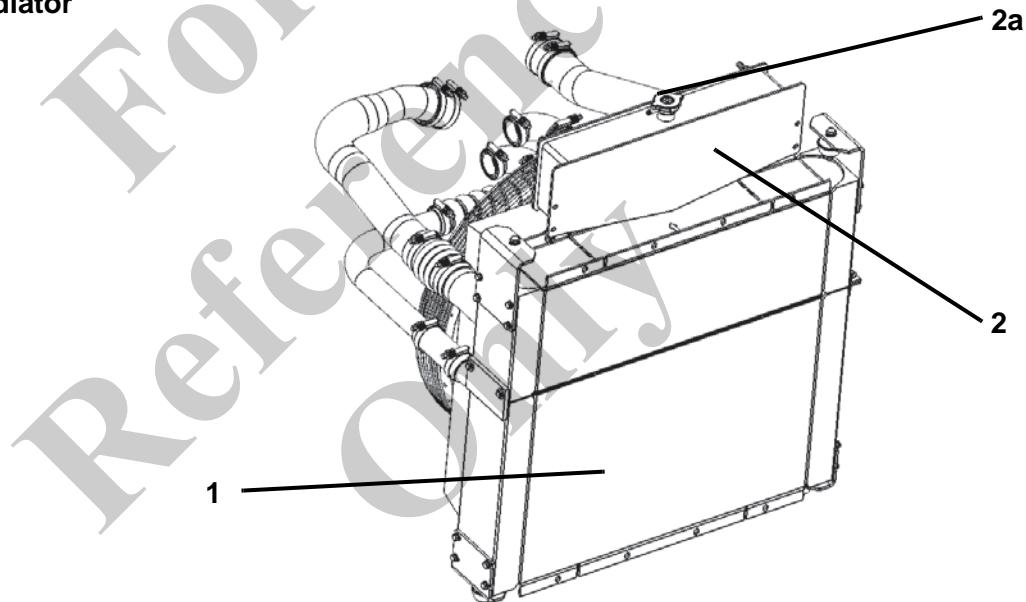

Fig. 13 Combination cooler
1	Let diesel engine and radiator (1) in Fig. 13 cool down.
2	Carefully open sealing cap (2a) in Fig. 13 of expansion tank (2) in Fig. 13 to relieve the pressure.
4	Close the sealing cap (2a) in Fig. 13 of the expansion tank.